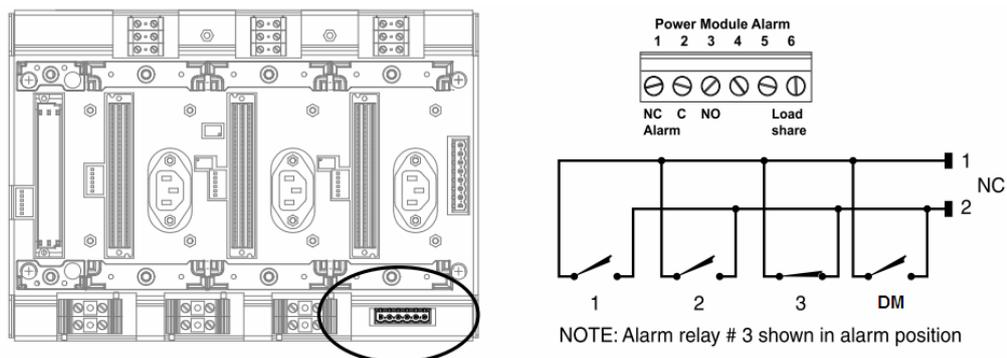

Figure 4.7 Parallel Alarm
Refer to Figure 4.7. Connect in parallel the normally closed (NC) alarm contacts on all power modules, and refer to Figure 4.7 for parallel alarm DIP switch configuration.